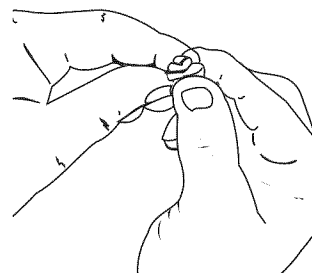

Fig. 22
5. Squeeze the filter to spread and remove excess oil (Fig. 22).